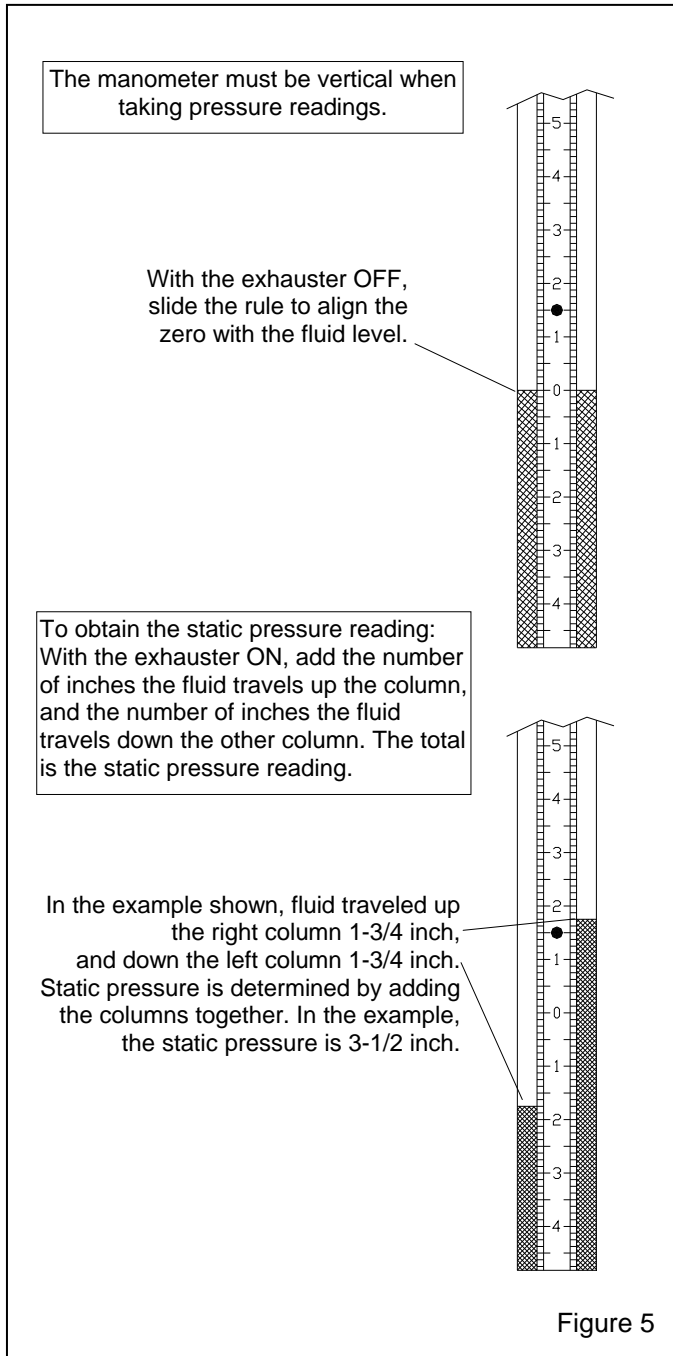

Figure 5
4.1.7 Adjust the slide rule to align the zero with the fluid level. Refer to Figure 5.
4.1.10 Obtain the static pressure by adding the number of inches the fluid travels up one column to the inches the fluid travels down the other column. Refer to the example in Figure 5.